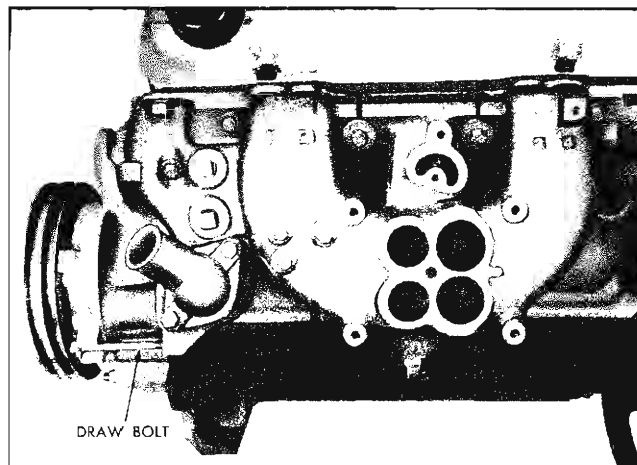

Fig. 6-16 Location of Manifold Attaching Screws
14. Remove manifold attaching screws (Fig. 6-16).